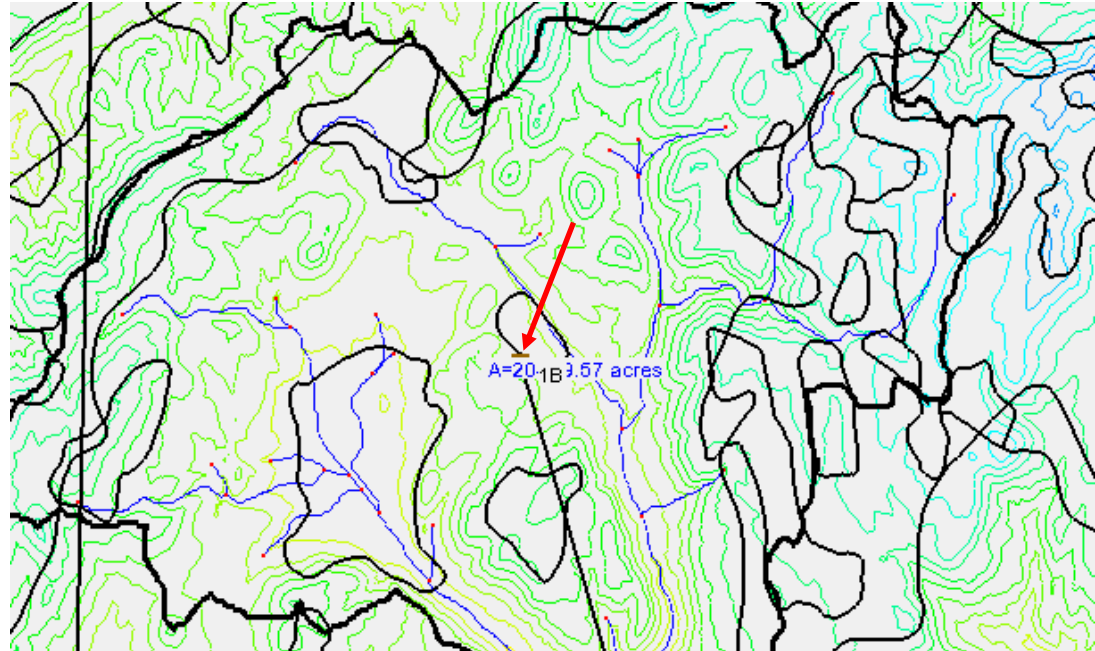

Figure 2 Brown basin icon 1B is behind the label, with the top just visible
2. Double-click on the brown basin icon labeled “1B” to bring up the *HMS Properties* dialog. The icon may be obscured by another label (Figure 2).